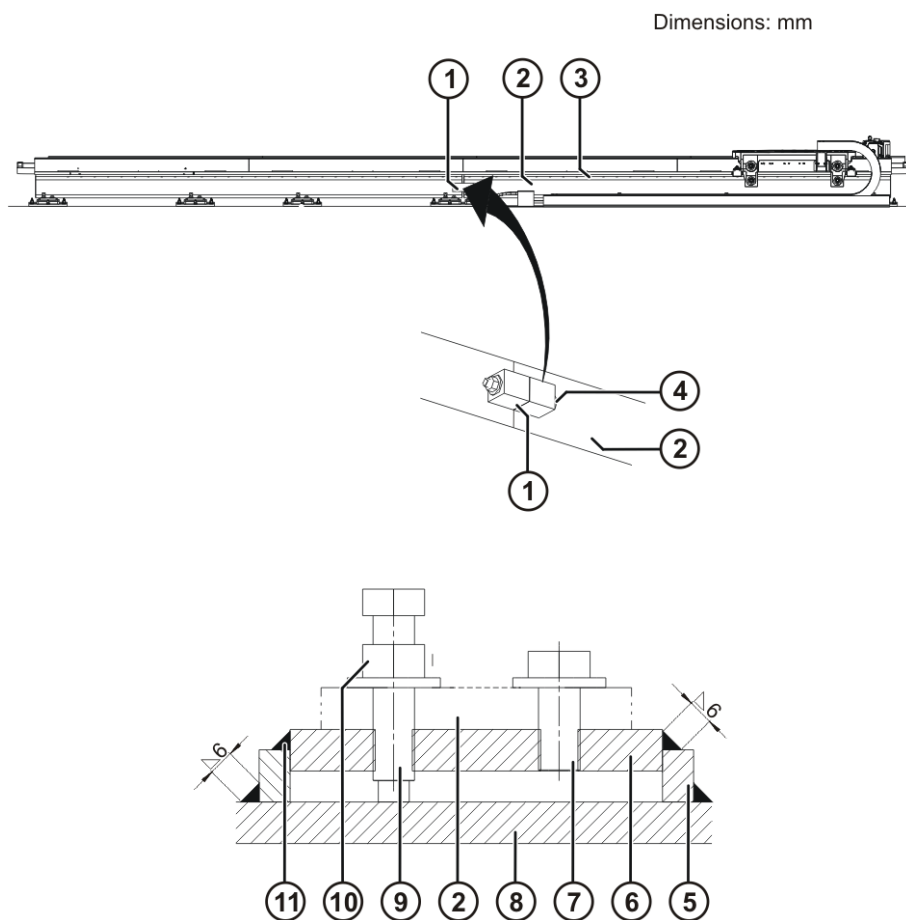

Fig. 8-6: Installation
5. Slacken and remove the nut, and pull the hexagon bolt (>>> Fig. 8-6) (4) out of the connecting assembly.